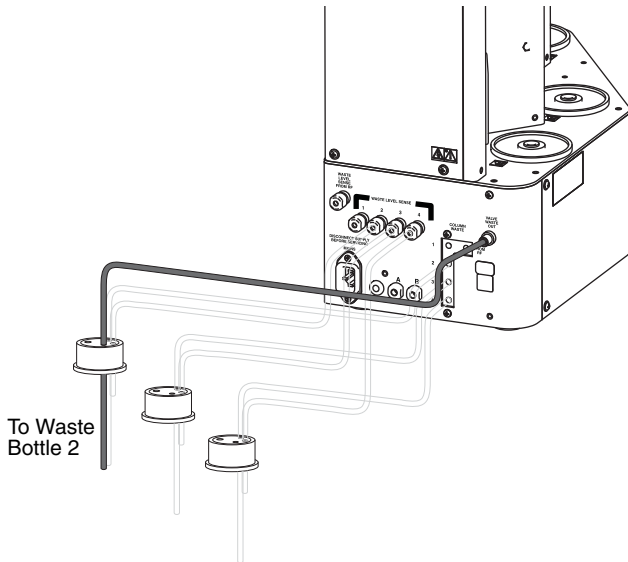

Figure 4-8 Valve Waste Out routed to Channel 2
8. The post-run valve cleaning fluids share a common port for channels 2 through 4. Select the 48 inch (120 cm) length of black tubing from the accessory package and connect it to the Valve Waste Out bulkhead fitting on the Rf 4x module. Route the other end of this tubing to one of the waste bottles. (The channel 2 waste bottle is shown in Figure 4-8.) You can alternatively route it to a container other than those used for channels 2 through 4, however the system will not be able to detect the level and prevent overfilling.